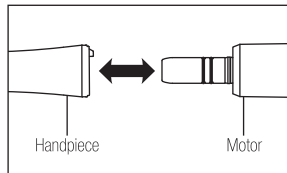

Fig. 1
- 1) Insert the handpiece direct to the motor (Fig. 1). Screw the handpiece until it clicks and locks into position.